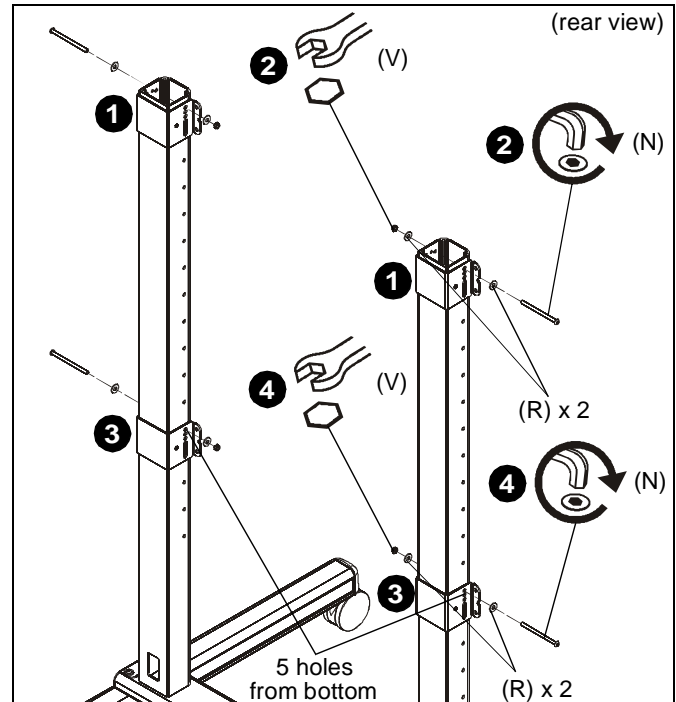

Figure 3
1. Place clamp brackets (P) on columns with the top hole on the brackets lined up with the top holes on the columns. (See Figure 3)
2. Use 5/16-18 x 4 1/2" button head cap screw (N), two 5/16" washers (R) and 5/16-18" lock nut (V) to secure each clamp bracket (G) to column. (See Figure 3)
3. Place clamp brackets (G) on columns with the top hole on the brackets lined up with the fifth holes from the bottom of the columns. (See Figure 3)
4. Use 5/16-18 x 4 1/2" button head cap screw (N), two 5/16" washers (R) and 5/16-18" lock nut (V) to secure each clamp bracket (G) to column. (See Figure 3)